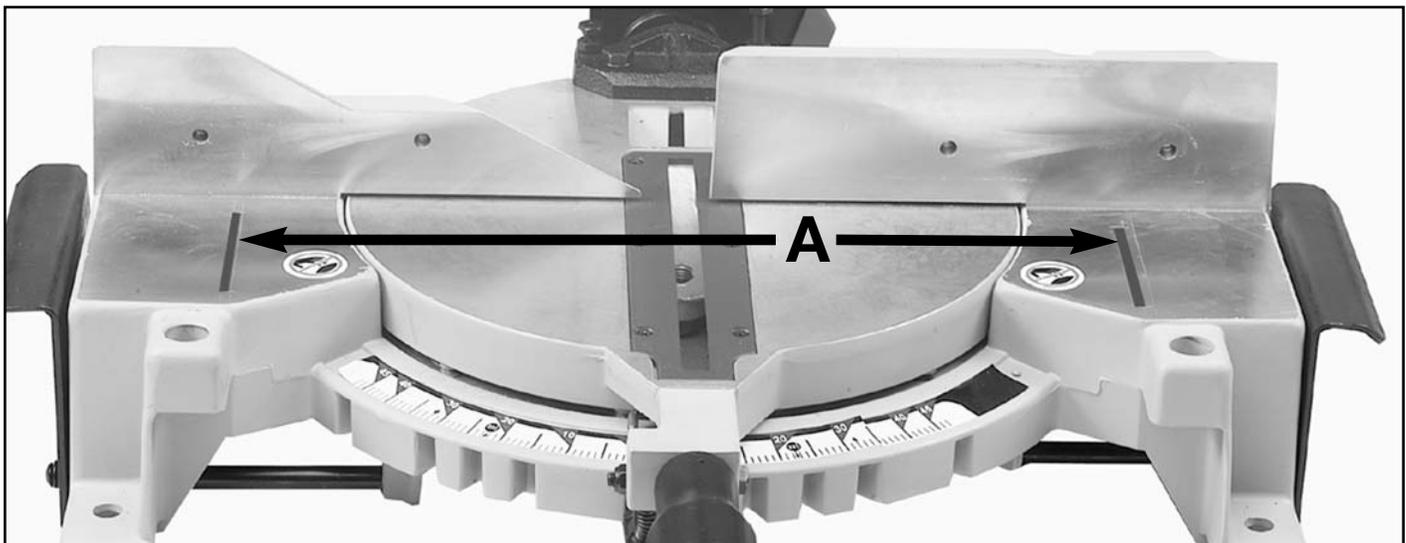

Fig. 9A
⚠ WARNING: THE AREA INSIDE THE TWO RED LINES (A) FIG. 9A, ON THE TABLE IS DESIGNATED AS A HAZARD ZONE. NEVER PLACE YOUR HANDS INSIDE THIS AREA WHILE THE TOOL IS BEING OPERATED.